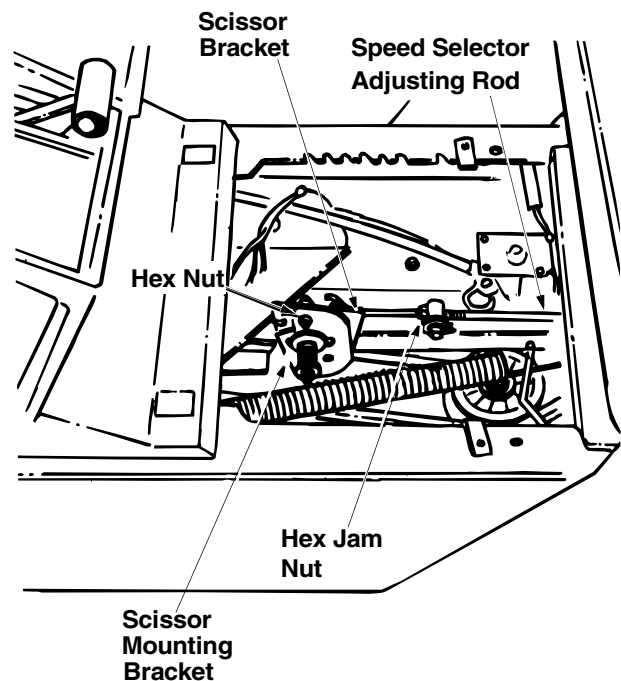

Figure 13
- Loosen the hex jam nut on the speed selector adjusting rod. See Figure 13 .
- Loosen the hex nut on the scissor mounting bracket. See Figure 13 .